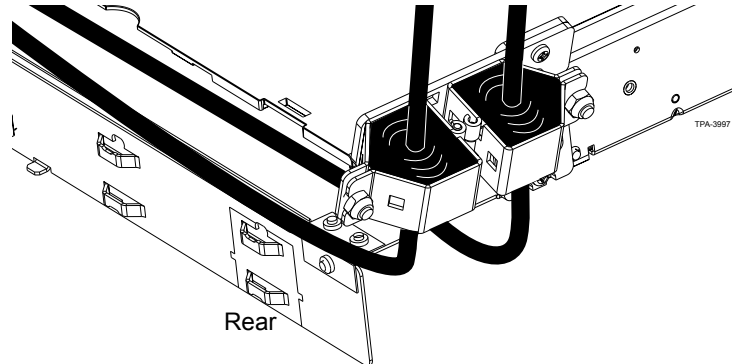

Figure 13
**NOTE:** Alternatively, a Universal Cable Clamp (UCC) may be attached to the strain-relief arm to hold the cable as shown in Figure 13. Follow the instructions provided with the UCC.